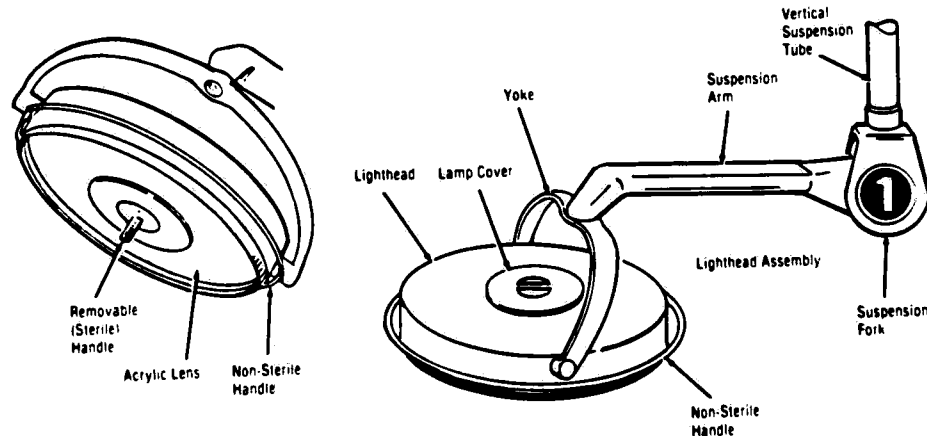

Figure 2-3. AREAS TO BE CLEANED.
2.4.2 Areas To Be Cleaned (See Figure 2-3)
2.4.5 Acrylic Lens and Sterile Handle (See Figure 2-3)